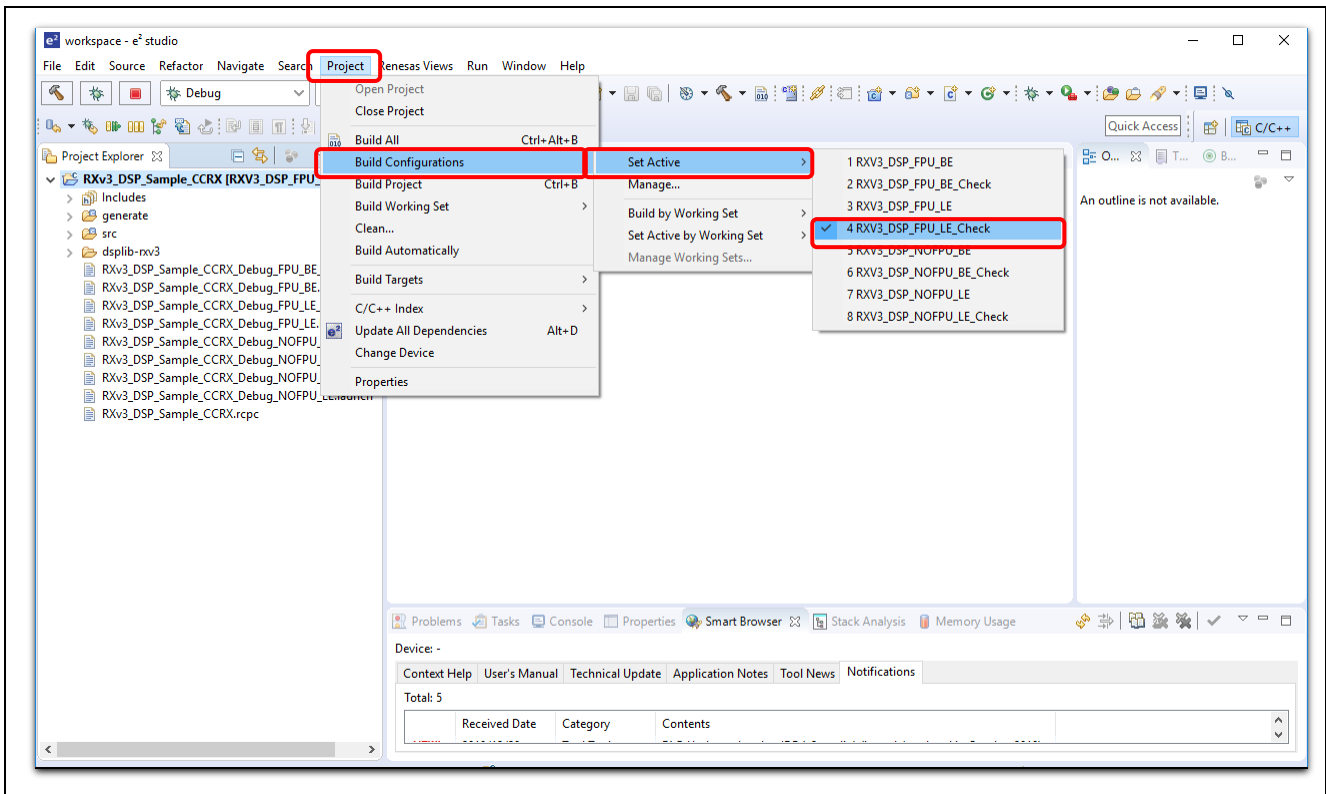

Figure 3-2 Selecting the build configuration in e² studio
- As shown in Figure 3-2, click the “RXv3_DSP_Sample_CCRX” project in Project Explorer, then from the menu select “Project” > “Build Configuration” > “Set Active” to select the desired build configuration. As shown in Table 2-3, there are eight build configurations. (Example: “RXV3_DSP_FPU_LE_Check” is selected.)